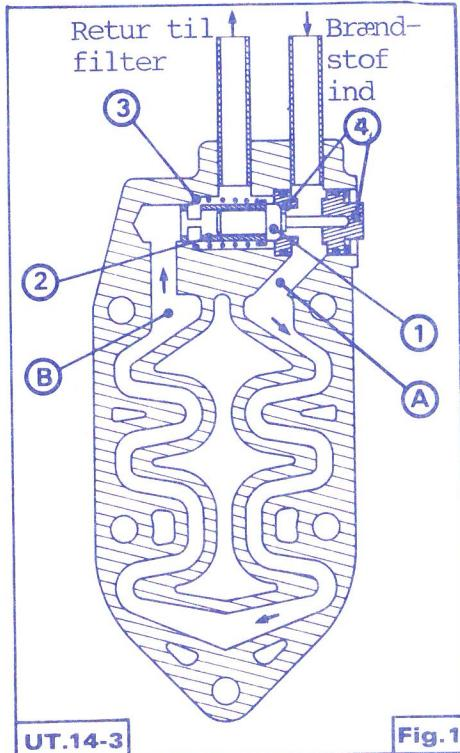

Fig.1
1. position Fig. 1 (temperatur < 15° C):